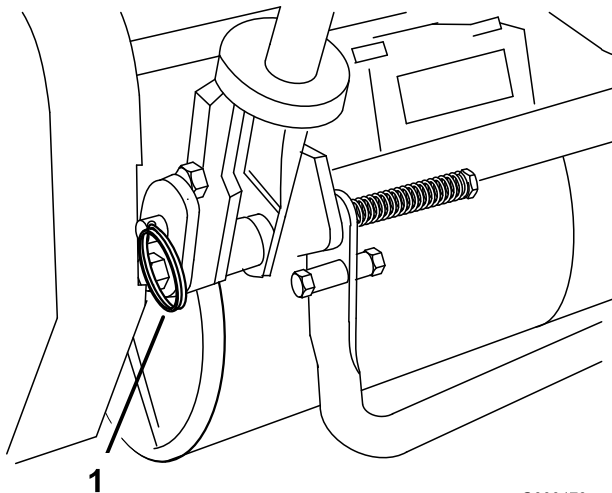

Figure 8
1. Remove hairpin cotters from ring pins on each side of mower (Figure 8).
2. While supporting handle, remove ring pins from each side and raise or lower handle to desired operating position (Figure 8).